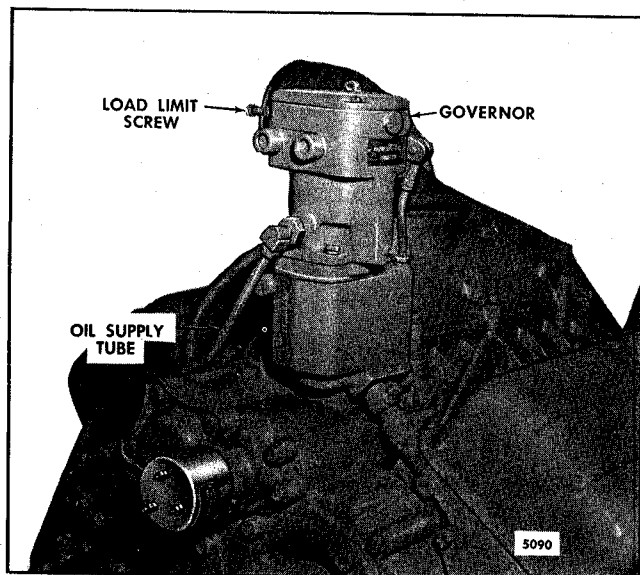
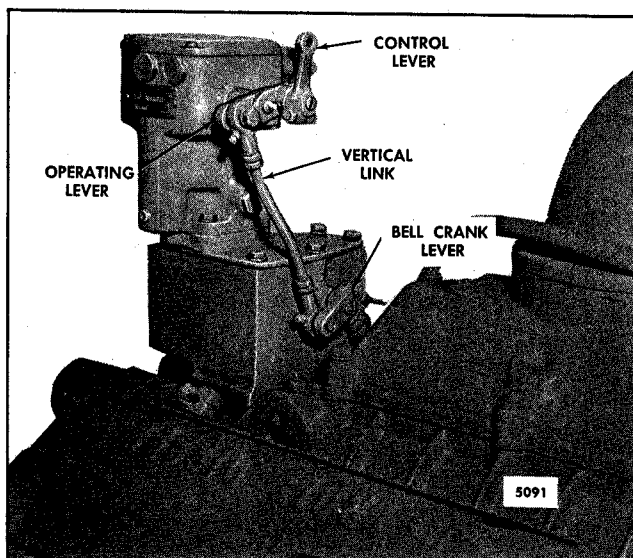

Fig. 6 - Hydraulic Governor Mounting (6V Engine)
Fig. 7 - Hydraulic Governor Controls (6V Engine)
The hydraulic governor is mounted between the blower and the rear end plate as shown in Fig. 6. The vertical control link assembly is attached to the governor operating lever and the bell crank lever on the governor drive housing (Fig. 7).
11. With the governor operating lever held in the full-fuel position, turn the load limit screw (Fig. 6) inward until the injector racks just loosen on the ball end of the control levers, to prevent the injector racks from bottoming.